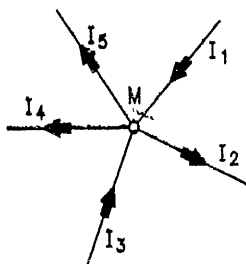

FIG. 1.62 CURRENTS MEETING AT M NODE
- Consider the case of a few conductors meeting at point M as shown in Fig. 1.62. The arrows indicate the direction of current flow. Accordingly, the currents I_1 and I_3 are coming towards the junction M and the currents I_2 and I_4 and I_5 are going away from the junction. Assume positive sign for incoming currents and negative sign for outgoing currents.